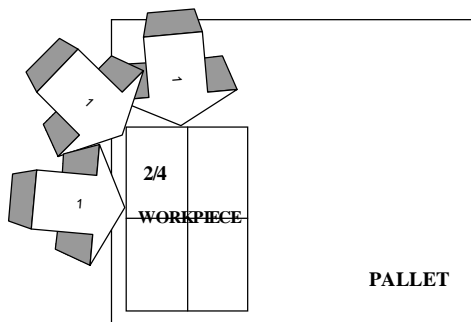

Fig 6.2 Reference 1
1. If all step approach directions ar on 1/4 area on the basis of the work position which is to be stacked on the pallet, select “0” as the work approach direction. ( refer to fig 6.2 )